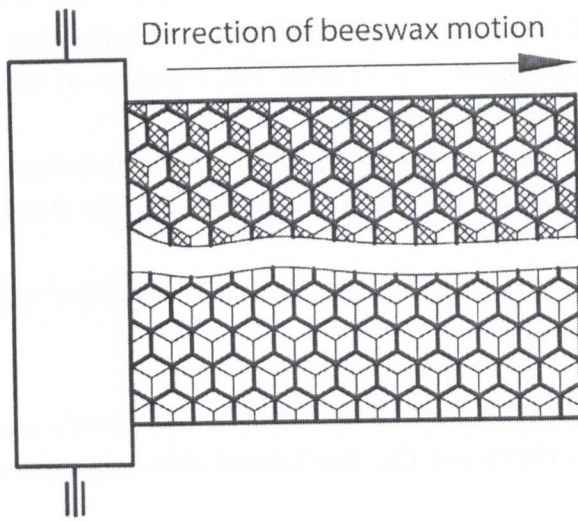

Fig. 9
4.3.1. In the front part of the beeswax honeycomb base sheet the cells are correct, but in the rear part, the second or third rhombs of the cell are thickened (Figs 9 and 10).